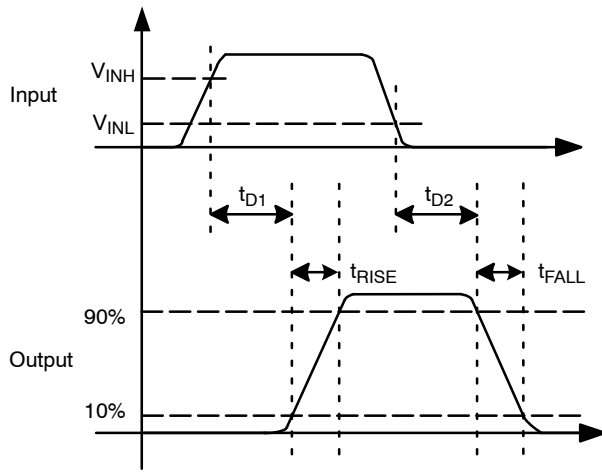
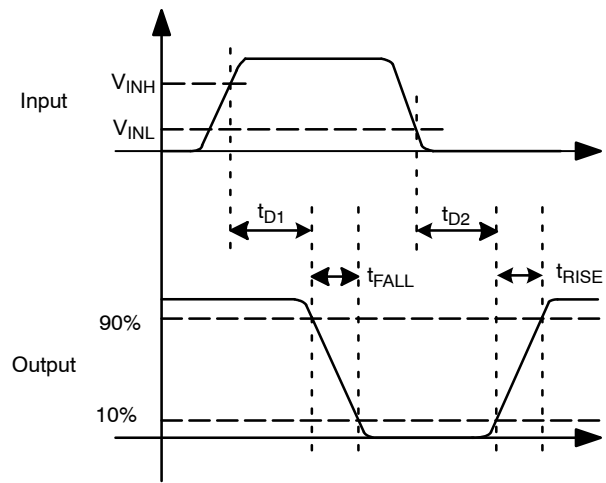

Figure 7. Non-Inverting (EN HIGH or Floating)
Figure 8. Inverting (EN HIGH or Floating)
- 12. See Timing Diagrams of Figure 7 and Figure 8.